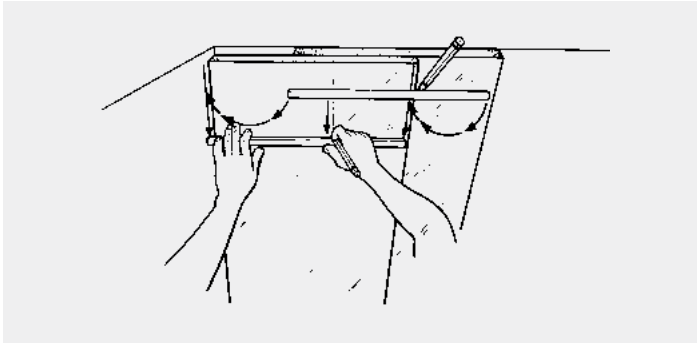

Figure 7.
1. Position insulation board squarely against corner, overlapping the inside edge of the last board installed (Figure 7).